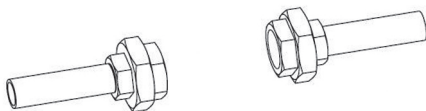

Fig. 5-1 Meter Mounting Diagrammatic Sketch 1
- Cut apart the pipe at the point for meter mounting to leave the required mounting space (Fig. 5-1)